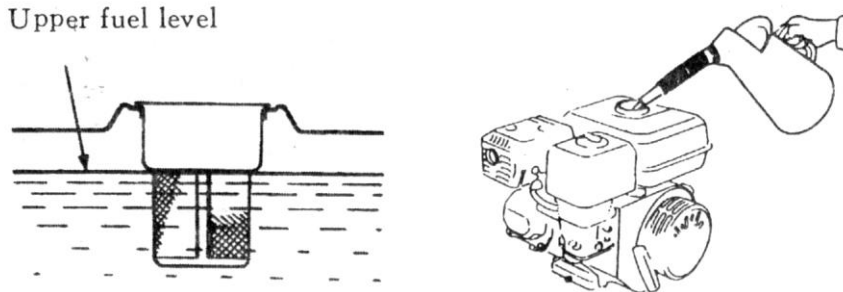

Fig. 12
- If the fuel level is too low, refuel the tank. Remember adding fuel not over the fuel filter shoulder (Fig. 12).